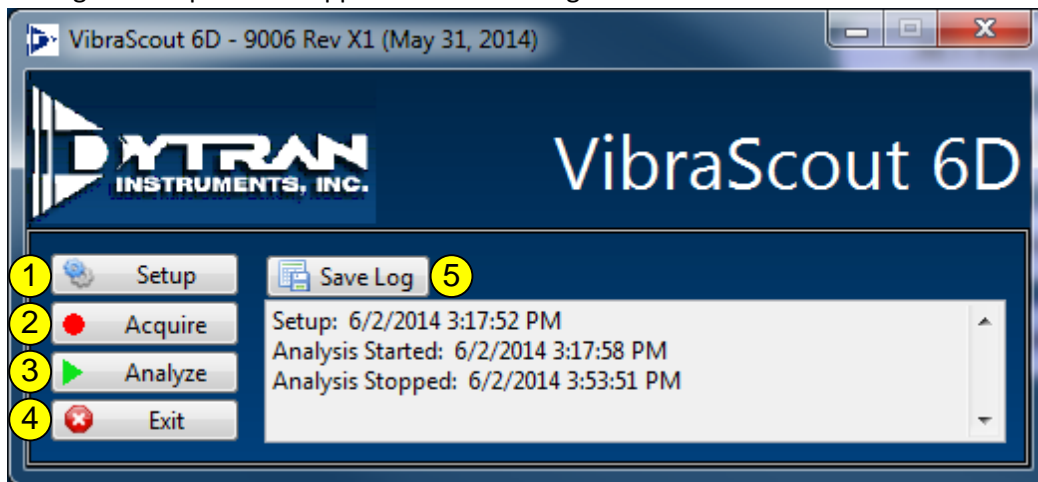

Figure 6:9006 Software Control Panel
3. The following Control panel will appear as shown in Figure 6.
5. Once completed with Setup, from Figure 6, click on the Acquire button to start real time acquisition.